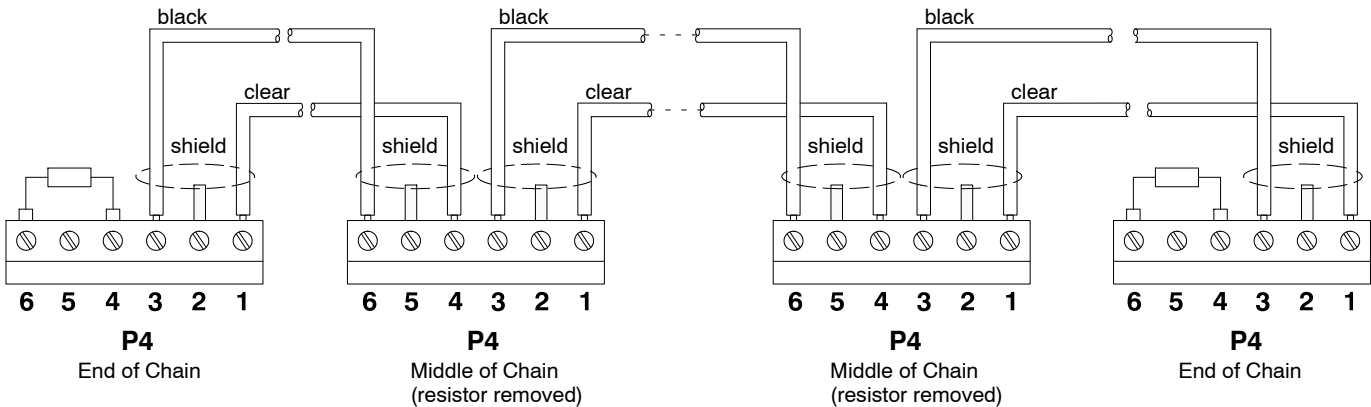
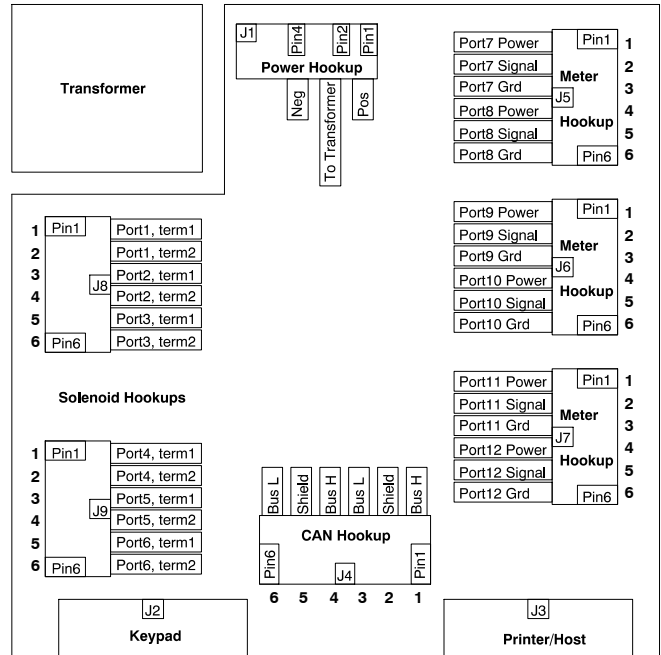

Fig. 10
Fig. 9
NOTE: See Fig. 9, page 16, for connector locations.
The cables are connected at each control module by stripping the wires and connecting the wires as shown in Fig. 10. Refer to Fig. 9 for the placement of the control module connectors.
- Connect the control module(s) in the middle of the network chain as shown in Fig. 10, with the terminating resistor removed.
- Connect the control modules at the end of the network chain as shown in Fig. 10, with the terminating resistor in place.